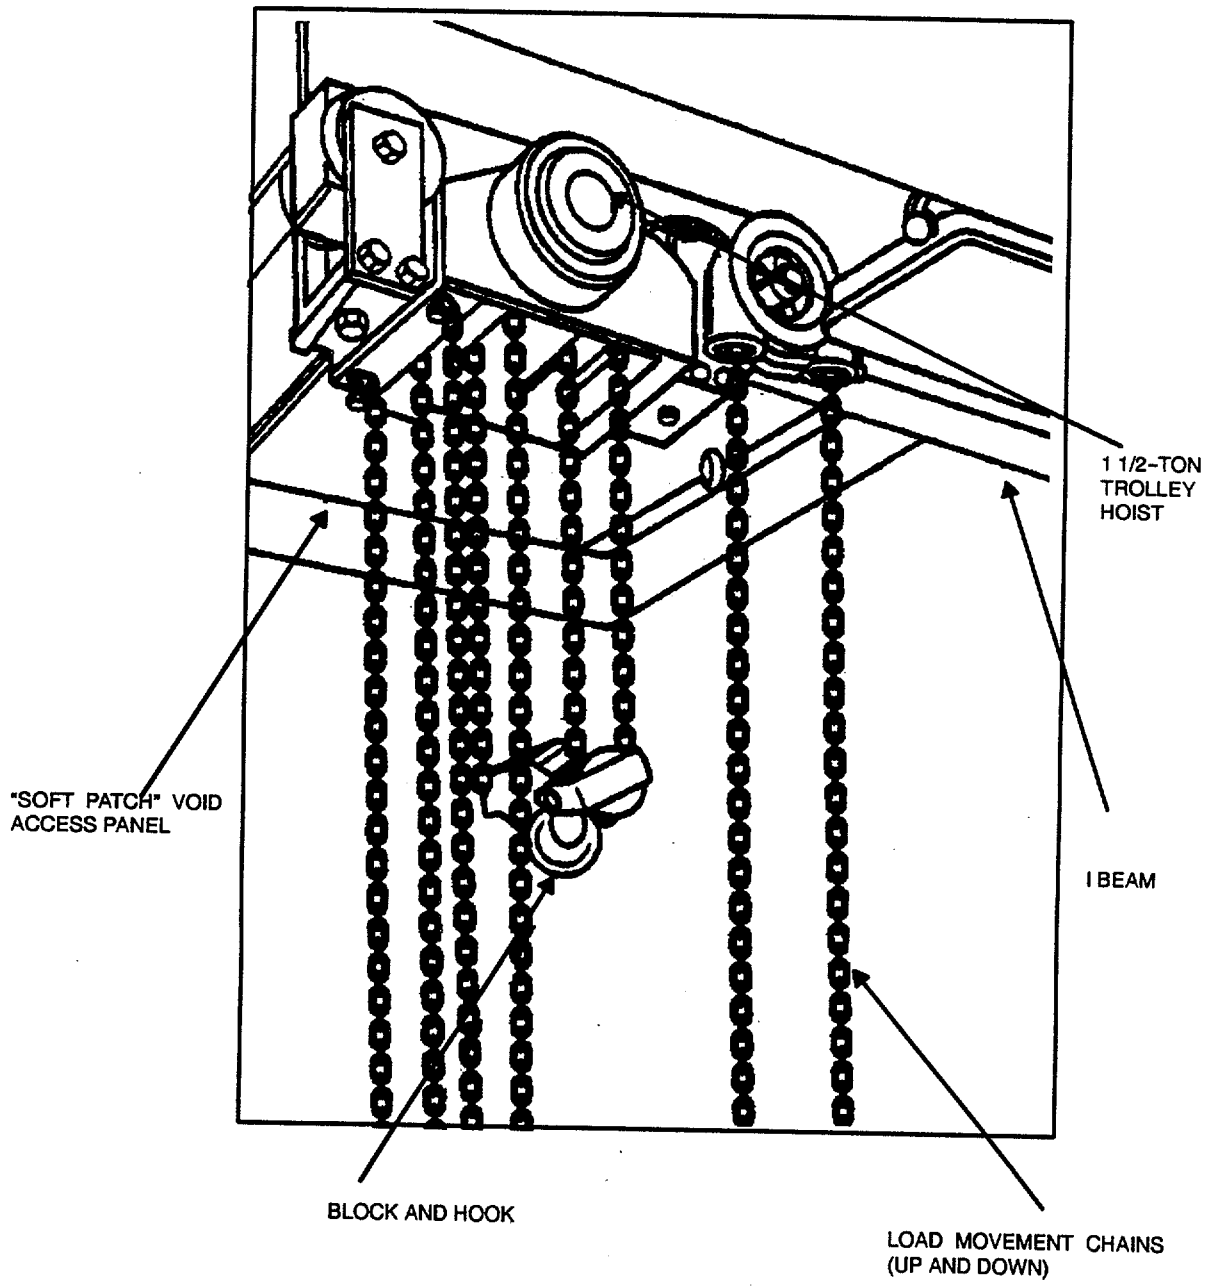

Figure 4-1. Void 4 Trolley Hoist
**4-1 Description.** Void 4 trolley hoist (Figure 4-1) in void 4 starboard is a low-headroom, manually-operated hoist. Major components include an "I" beam suspended from the void 4 overhead structure, a manual hoist assembly, load chains, a block hook, and a brake mechanism. The trolley hoist has a net weight of 230 pounds and a standard lift height of 8 feet. The load chains measure approximately 9 feet 6 inches and require 41 pounds of pull to lift a full load. The hook assembly has a diameter of 1 3/7 inches. The "I" beam measures approximately 6 inches in width.
**4-9 Operating controls.** Controls for maneuvering loads are the pull chains located on the trolley hoist (Figure 4-1).